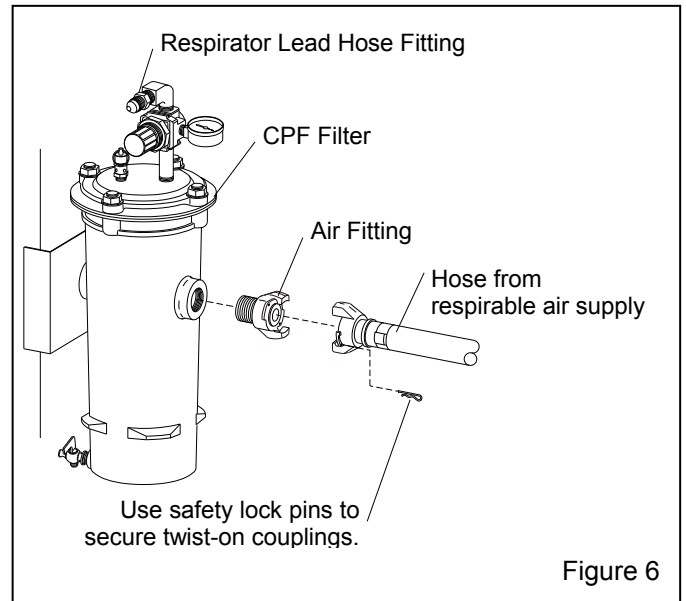

Figure 6
2.5.2 Apply thread sealant to the male threads of an air fitting that is compatible with the air supply hose fitting, as noted in Section 2.5.3, and install it onto the 1-NPT port located at the side of the filter, as shown in Figure 6. Note that the style of connection shown in Figure 6 is for reference only.
2.5.3 Refer to the CPF air filter owner's manual and connect an air supply hose from an air source that meets OSHA requirements for respirable air, to the fitting installed on the CPF Filter inlet, as shown in Figure 6.